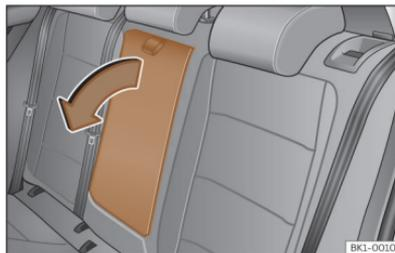

Fig. 101 Folding rear centre armrest (schematic view).
- To lower the armrest, pull the cord in the direction of the arrow >>> **Fig. 101**.